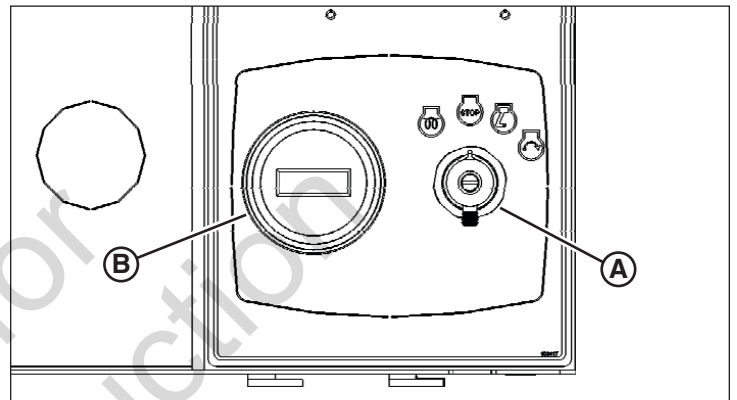

Figure 21
The CAT, Kubota and Mitsubishi engine control panels consist of the engine start/stop key (A, Figure 21) and hour meter (B).